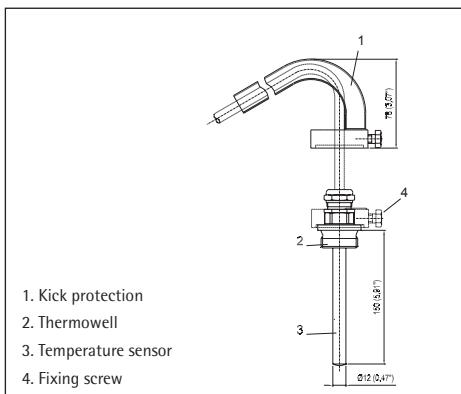

Fig. 2
Fill the transformer thermometer pocket (e.g. acc. to EN50216-4, formerly DIN 42554 or similar) up to two thirds full with oil or heat conducting paste and screw the thermowell as shown in Fig. 2/2 into place. Insert the temperature sensor and capillary tube into the thermowell as far as possible and tighten it up using the M16 cable gland. If the thermometer is to be used with either a combi well or a transformer transmitter type ZT-F2.1, please refer to the operating instructions BA2032 or BA2526030 respectively.
3.4 Kick protection (Fig.2/1) optional
If required, fit the kick protection to the adapter of the thermowell (Fig. 2/2) and route the capillary tube inside the kick protection. Tighten the fixing screw (Fig. 2/4, wrench size 13mm) of the kick protection to a flat side of the thermowell adapter.